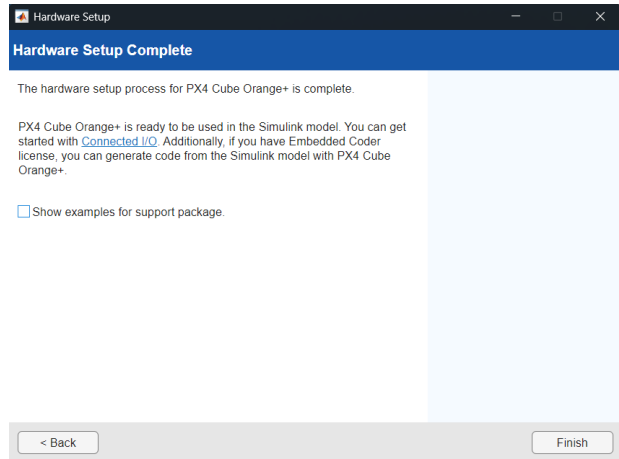

Figure B.18: Screenshot of the hardware setup complete window.
20. The hardware setup process is now complete. Optionally select “Show examples for support package” as desired, and click “Finish” as shown in Figure B.18.